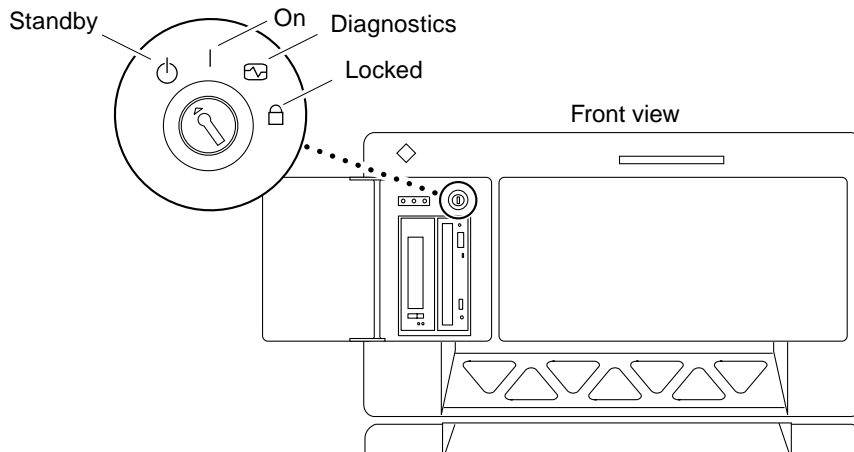
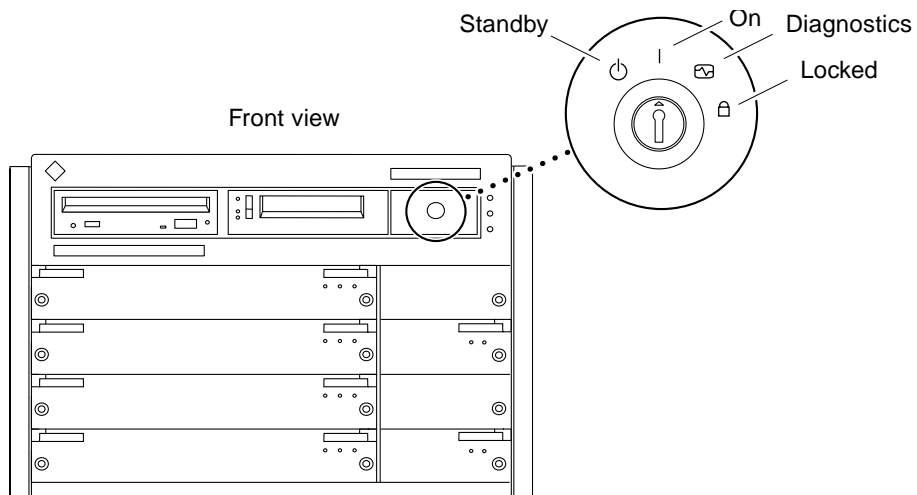

FIGURE 11-1 Key Switch (Enterprise 6500 and 5500)
FIGURE 11-3 Key switch (Enterprise 4500)
6. **Turn the front panel key switch to the Standby position (FIGURE 11-1).**
5. Turn the key switch on the front panel of the server to the Standby position (fully counterclockwise) (FIGURE 11-3).
1. **The system key switch must be turned to  (the standby position) (FIGURE 11-1 or FIGURE 11-3).**
5. **Turn the front panel key switch to | (the power on position) (FIGURE 11-1 or FIGURE 11-3).**